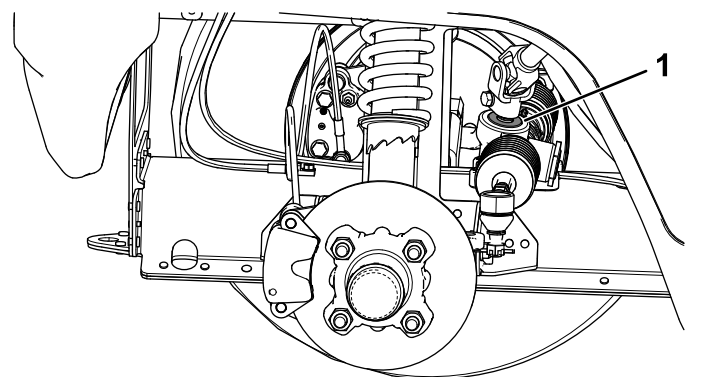

Figure 46
**Important:** Inspect the condition and security of the pinion-shaft seal (Figure 46).